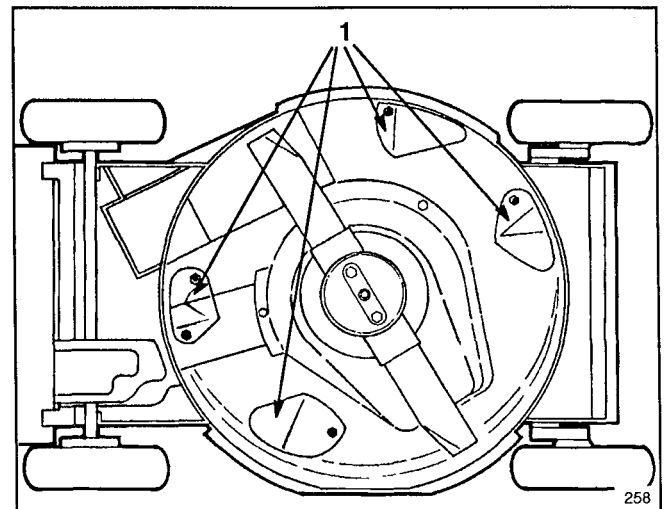

Figure 30
Keep underside of mower housing clean. Be especially careful to keep kickers on underside of mower housing free of debris (Fig. 30).
2. Tip mower on its left side (Fig. 30). Avoid rotating blade because starting problems may result.